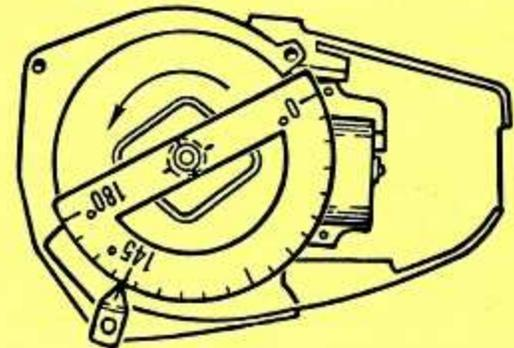

FIGURE 8
5. Turn the crankshaft and the degree wheel counterclockwise until the indicator reads top dead center (145 degrees in the example above). The piston is now at top dead center (Figure 8).